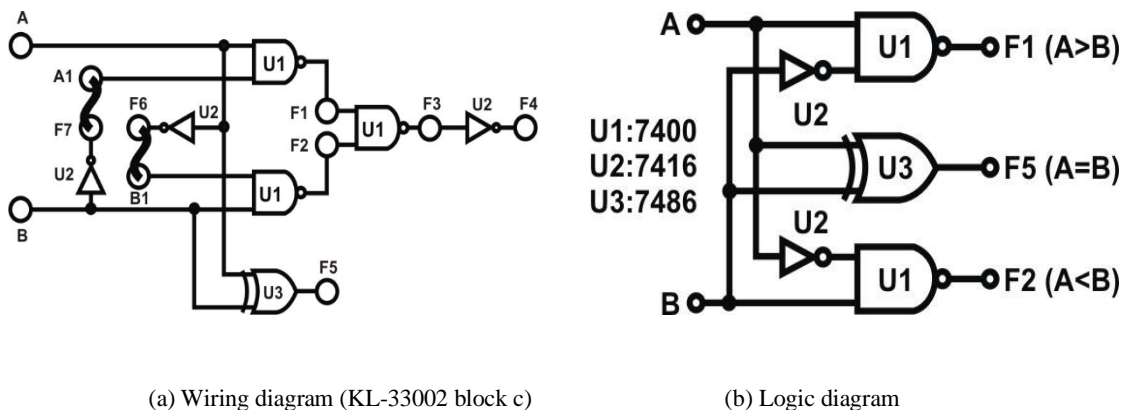

Figure 2.13: 1-bit comparator.
- a) Set module KL-33002 block c. Insert connection clips according to Figure 2.13 (a) (connect A1 with F7 and F6 with B1). NAND and XOR gates will be used to construct the 1-bit comparator shown in Figure 2.13 (b).